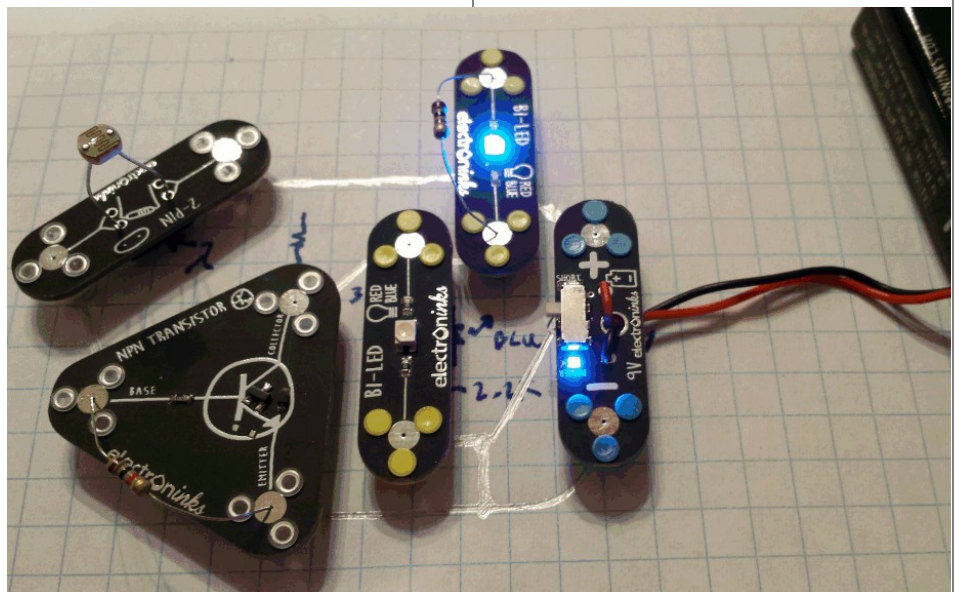

Fig. 2: A Circuit with Modules in Place
Components are contained in pre-assembled modules. Underneath each pin of the modules is a high-strength magnet. Circuits drawn on paper are placed on top of a steel backing sheet; this allows the magnets in the modules to readily attract through the paper circuit, ensuring a fairly solid connection. Figure 2 shows the LED circuit with the modules in place.
- Holes are placed on each module pin of the preassembled parts to allow the experimenter to add on discrete components. This is undocumented, but you can clearly see where I cribbed a 1k resistor across the base-emitter of the transistor in Figure 2 using this feature.